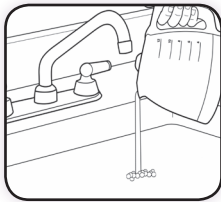

Figure 31
- 2 Discard the solution, then wash and rinse the carafe. (Figure 31)